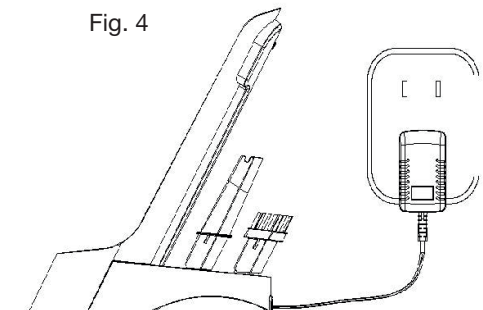

Fig. 4
4. Place the charging base on a flat, stable surface and plug the power unit into an easily accessible wall socket (**Figure 4**).